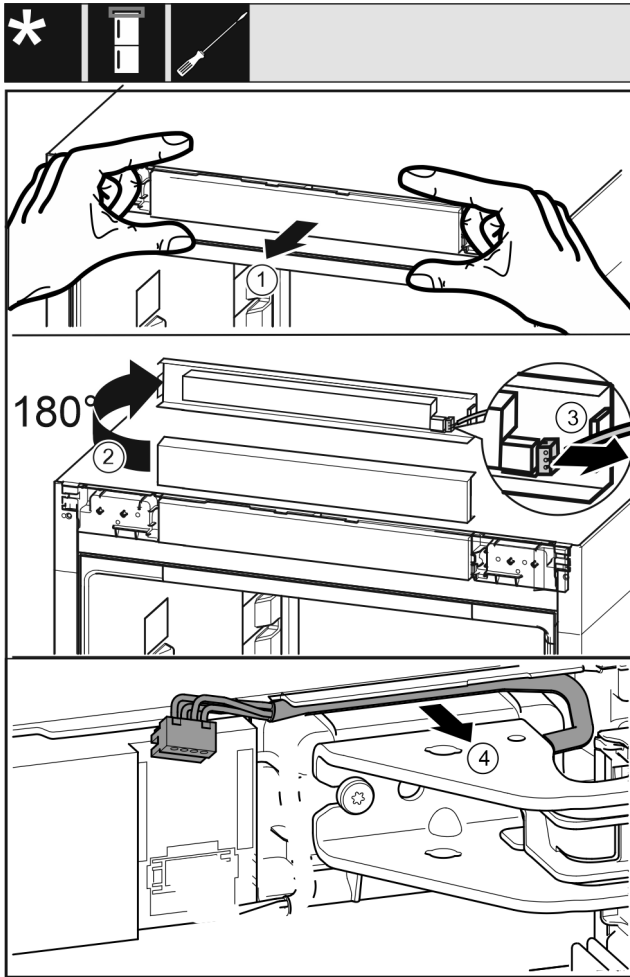

Fig. 18
- ▶ Carefully loosen the control plate Fig. 18 (1) toward the front.
- ▶ Turn the control plate Fig. 18 (2) upward by 180°.
- ▶ Press the latching tab Fig. 18 (3) backwards and carefully pull out the plug.
- ▶ Carefully loosen the cable Fig. 18 (4) above the swap bearing block from the guide.